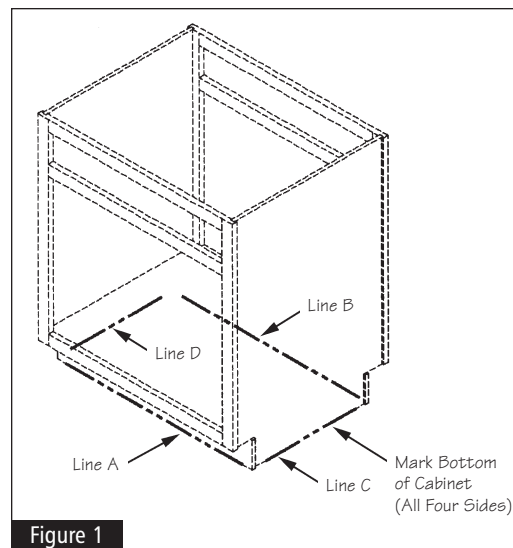

Figure 1
- 1 Position the peninsula base cabinet at the desired location. Using a pencil, mark lines around the bottom of all four sides of the cabinet onto the floor. See Figure 1.